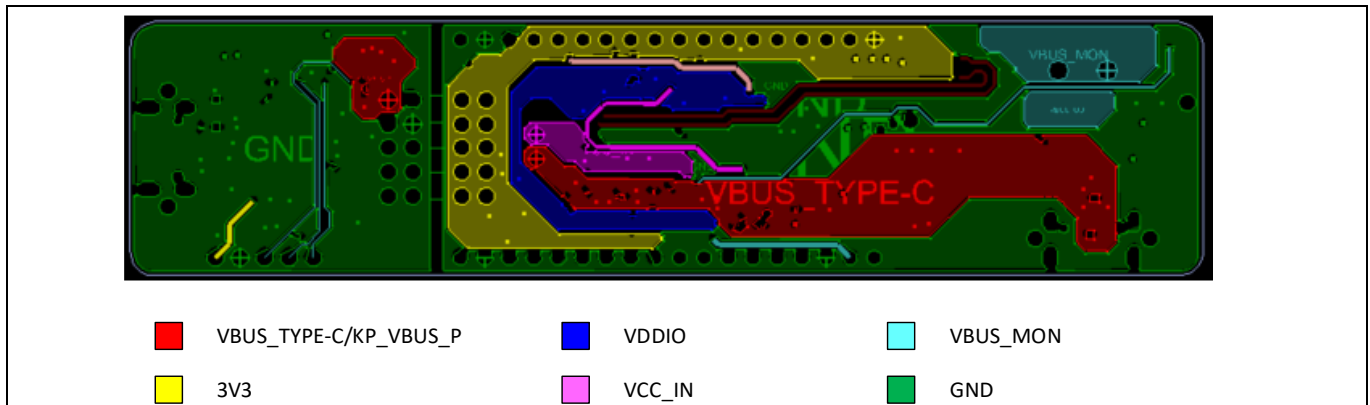

Figure 18 Power plane (Reference: PMG1-S1 kit)
- Use cutouts on the power plane if more than one voltage is required on the board. **Figure 18** shows the cutouts on power plane, and various power domains are marked in different colors.